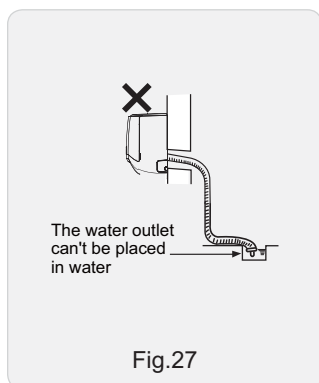

Fig.27
- (3) The water outlet can't be placed in water in order to drain smoothly.(As show in Fig.27)